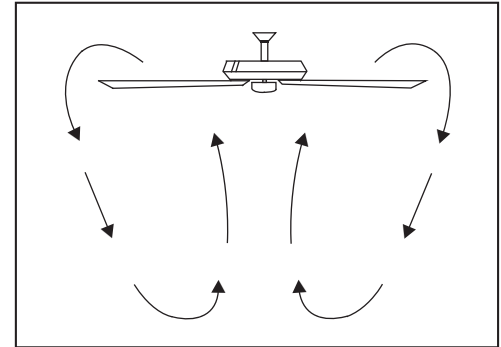

Figure 16
**Cool weather** - (Clockwise direction) An upward air flow moves warm air off the ceiling as shown in Figure 16. This allows you to set your heating unit on a lower setting without affecting your comfort.